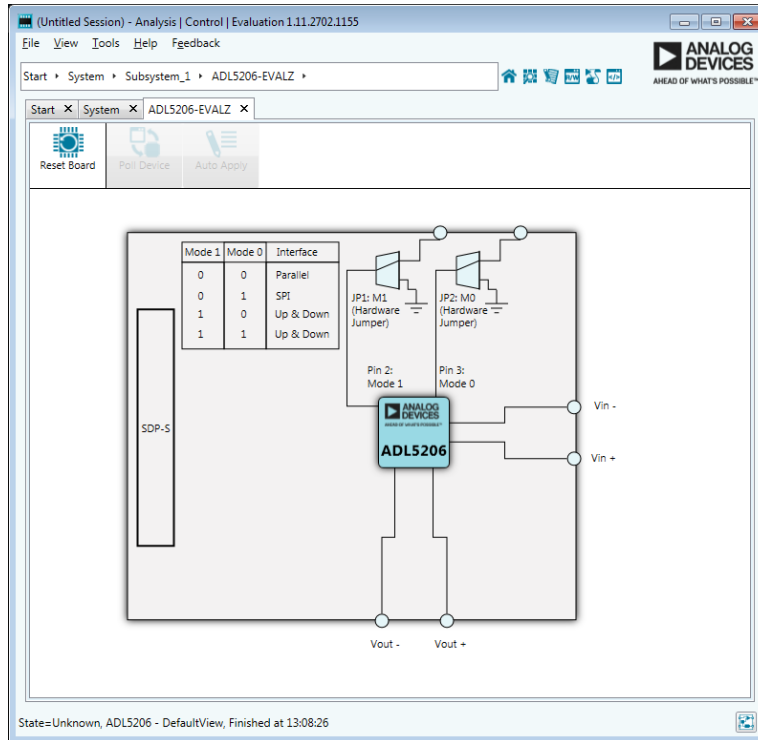

Figure 6. ADL5206-EVALZ Board Level View Window in ACE
3. Click the **ADL5206-EVALZ** icon to open the board level view window (see Figure 6). Because the ADL5206-EVALZ is a simple evaluation board, only the ADL5206 is represented as a controllable component.